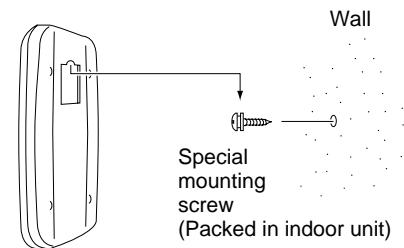

Fig. 7
- 3) After confirming correct operation, use a screwdriver to screw the supplied special mounting screw into the wall. (Fig. 7)
- 3) After confirming correct operation, use a screwdriver to screw the mounting screw into the wall. (Fig. 7)